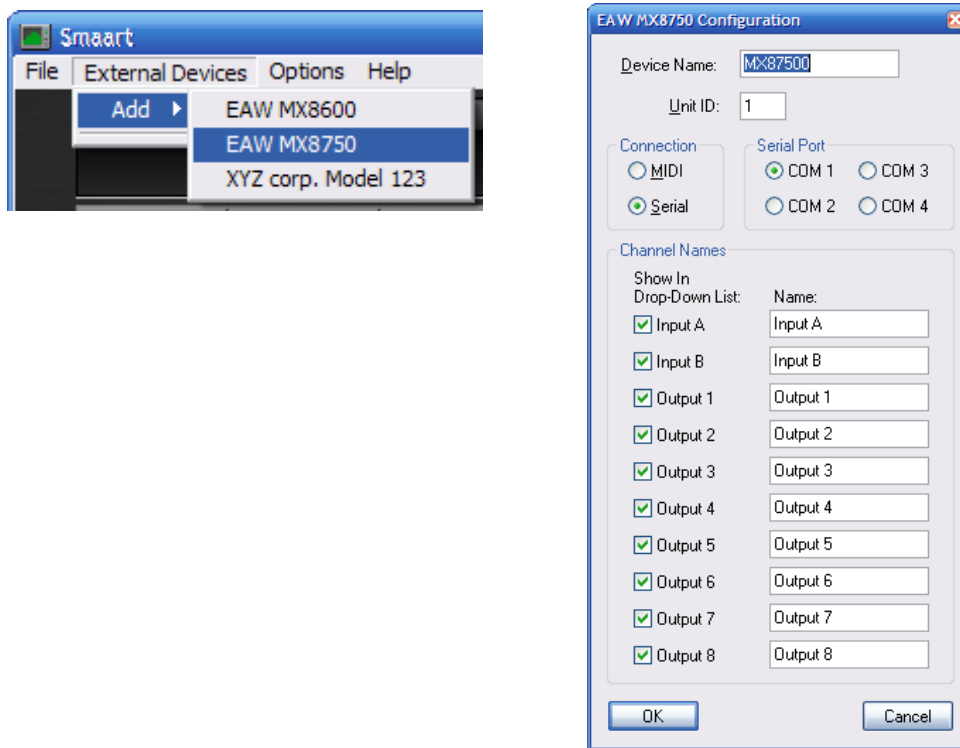

Figure 5-1 Selecting from **External Devices->Add** menu (left) and configuring the device (right)
1. Select the new device from **External Devices->Add** (left of Figure 5-1). The device's Configuration dialog appears (right of Figure 5-1).